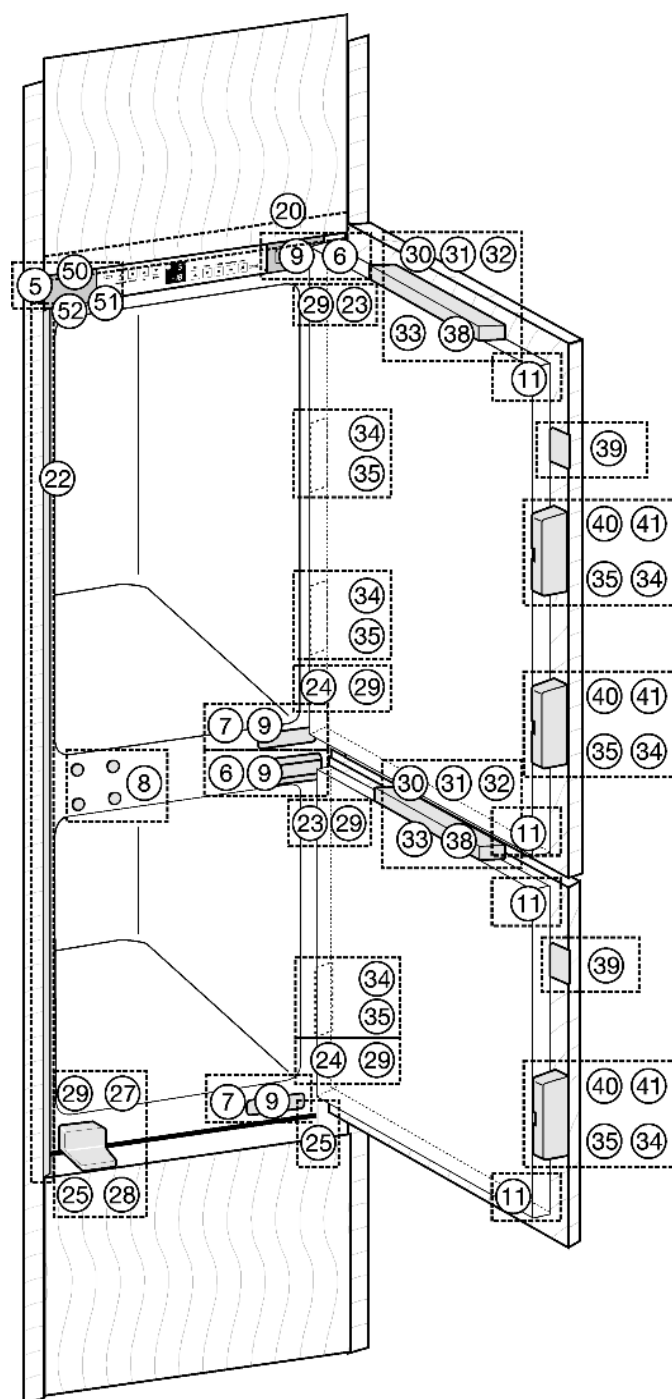
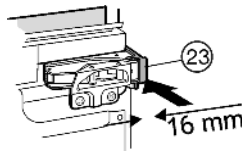

Fig. 10
Fig. 14
- Remove covers Fig. 10 (5,6,7).
- Clip spacer *Fig. 14 (23)* onto the upper hinge and spacer *Fig. 10 (24)* onto the lower hinge.